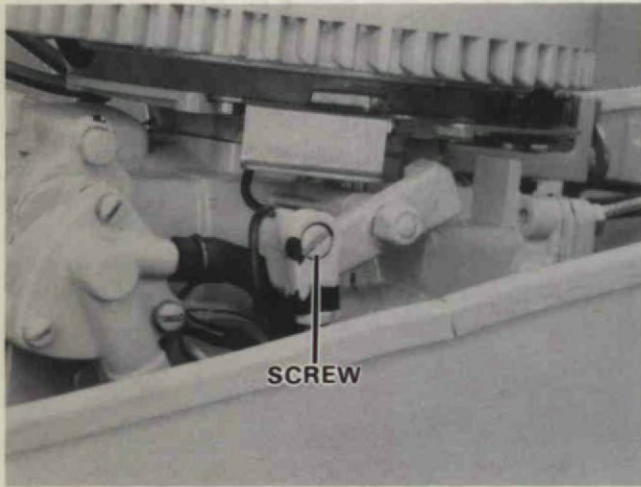

Figure 3. Detaching Interlock Rod.
C. Detach interlock rod by removing screw (interlock rod bearing swivel.) Figure 3.